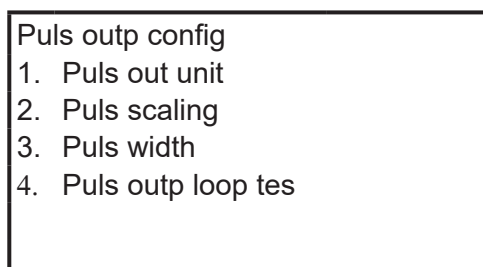
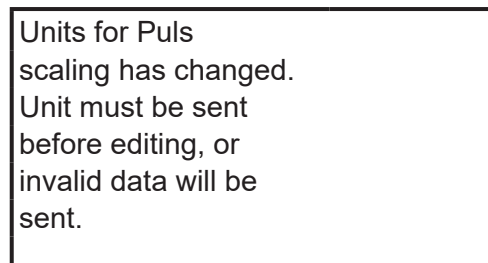

Figure 22 Puls outp config menu
Figure 25 Demand for data transfer
- Select “2. Puls scaling” from the Puls outp confi menu. (Figure 22) If the pulse weight has been changed prior to this step but the change has not been transmitted to the converter, a message demanding the transfer will appear on the display. (Figure 25) Press F4 (OK) here.
1. Select "3. Puls width" from the Puls outp config menu. (Figure 22)